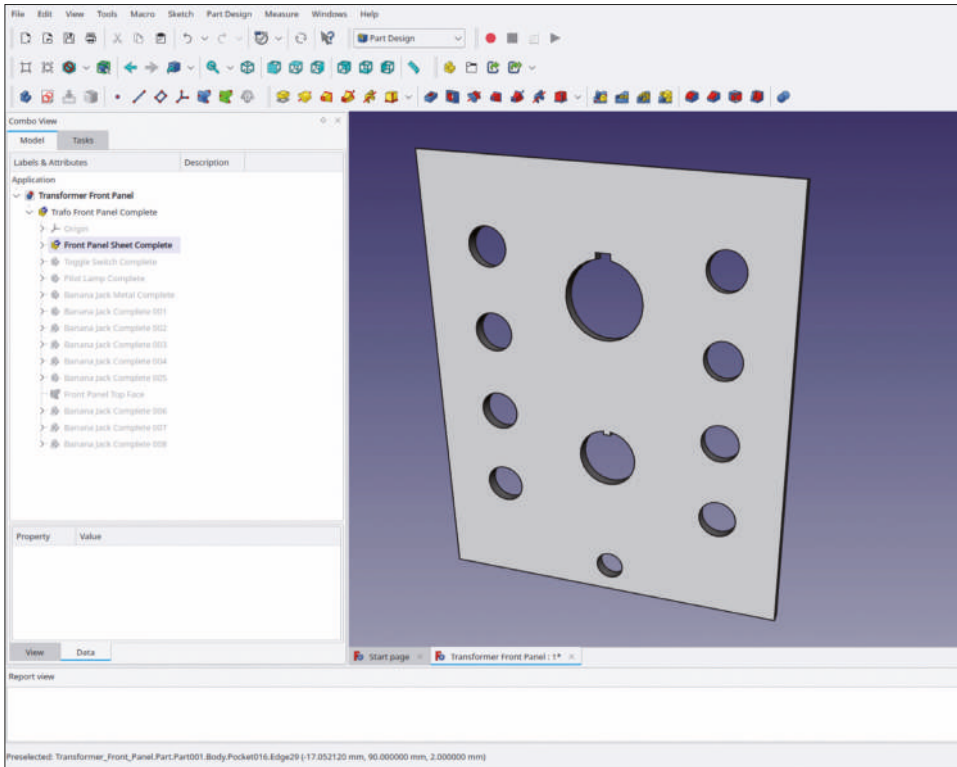

Figure 9-33
12. Hide all front panel elements and reveal the 'Front Panel Sheet' body to check all the created front panel cutouts (Figure 9-33).